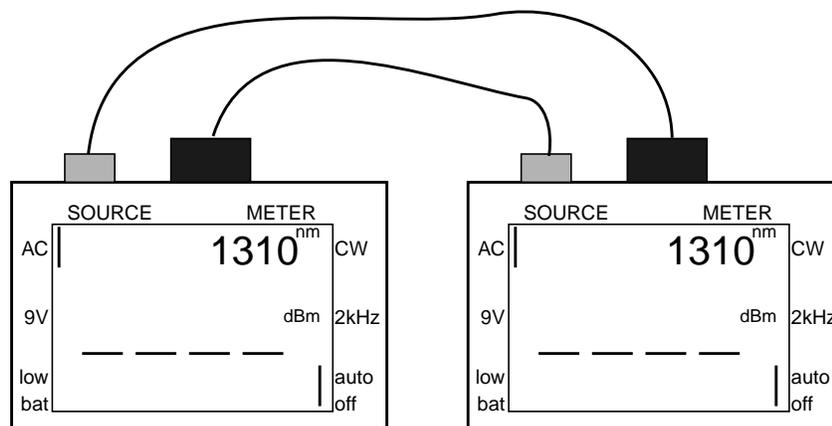

FIGURE 2-10 Setting the Reference Value on Both Fiber Optic Testers
1. **Connect the light source on each of the fiber optic testers with the photo detector on the companion fiber optic tester. Use a 1-meter single mode fiber cable to connect both fiber optic testers to each other as shown in FIGURE 2-10.**